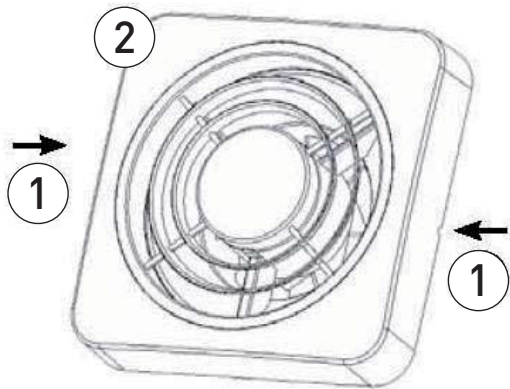

Figure 8
1. Unhook the cover [2] from the motor support by pressing on the side holes [1] using a small screwdriver (Figure 8).